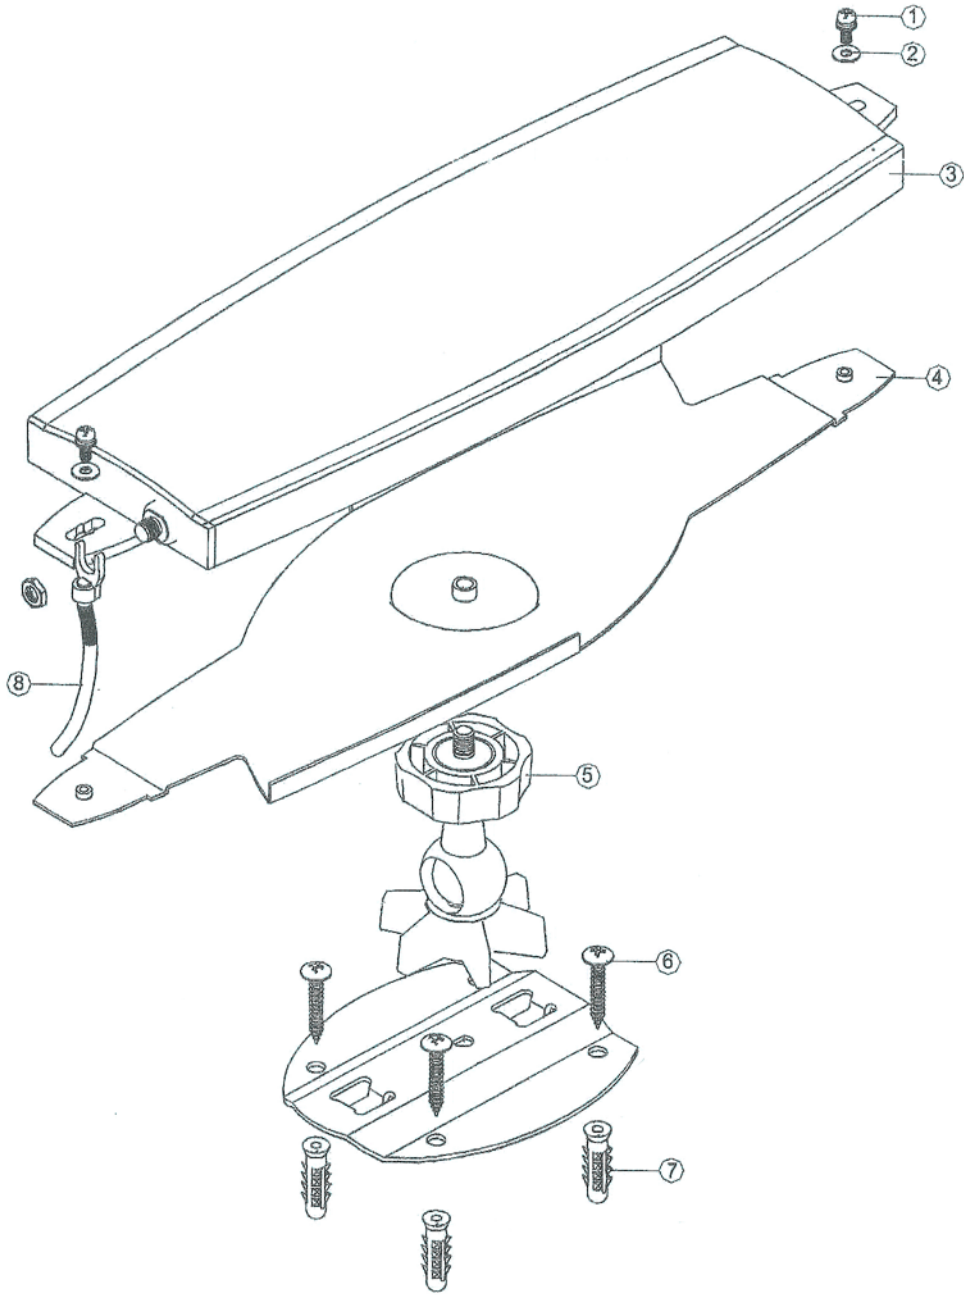

Figure 2-18: Wall Mounting with Pan & Tilt Capabilities
- 2 M3*8 Screws (1)
- 2 M3 washers (2)
- Antenna back plate (4)
- U-Joint Set (adjustable arm) (5)
- 4 5/32-16*1TP Wall Screws (6)
- 4 ¼" Wall anchors (7)
- Grounding Wire (8) - Not Used
- 1 Attach the adjustable arm to the wall following the directions in Figure 2-18.
- 3 Screw the back plate to the adjustable arm following the directions in Figure 2-18.